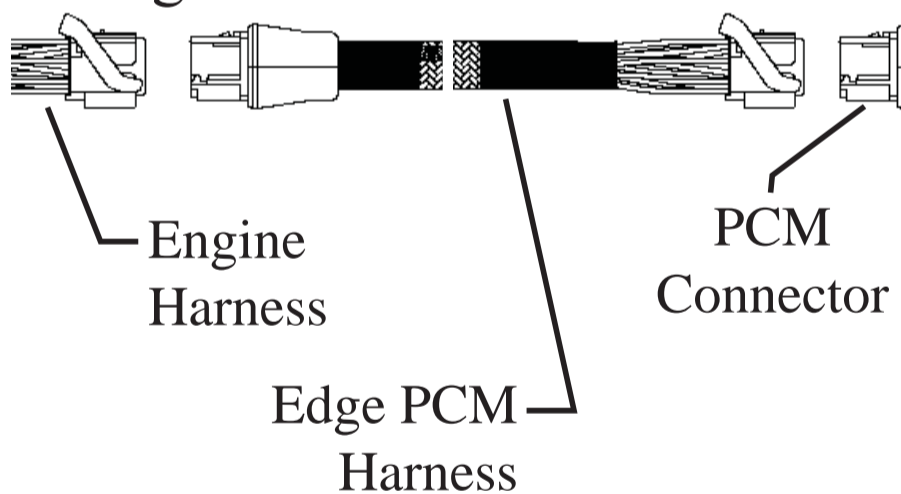

FIGURE 4 - PCM Installation
4. Connect the Main Edge PCM Harness as described in Figure 1 in between the PCM and Engine harness as described in Figure 4 below.